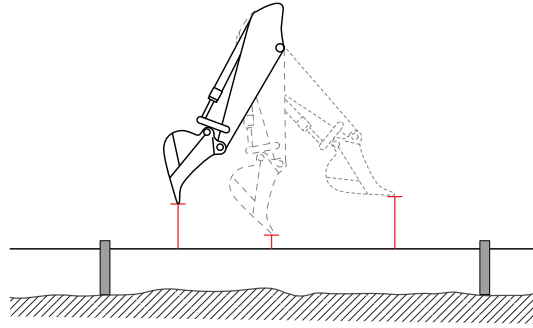

Figure 82: String Line Verification - Stick
3. Curl only the stick in and out at various positions, and measure the distance from the string line to the bucket teeth with a measuring tape (Figure 82).